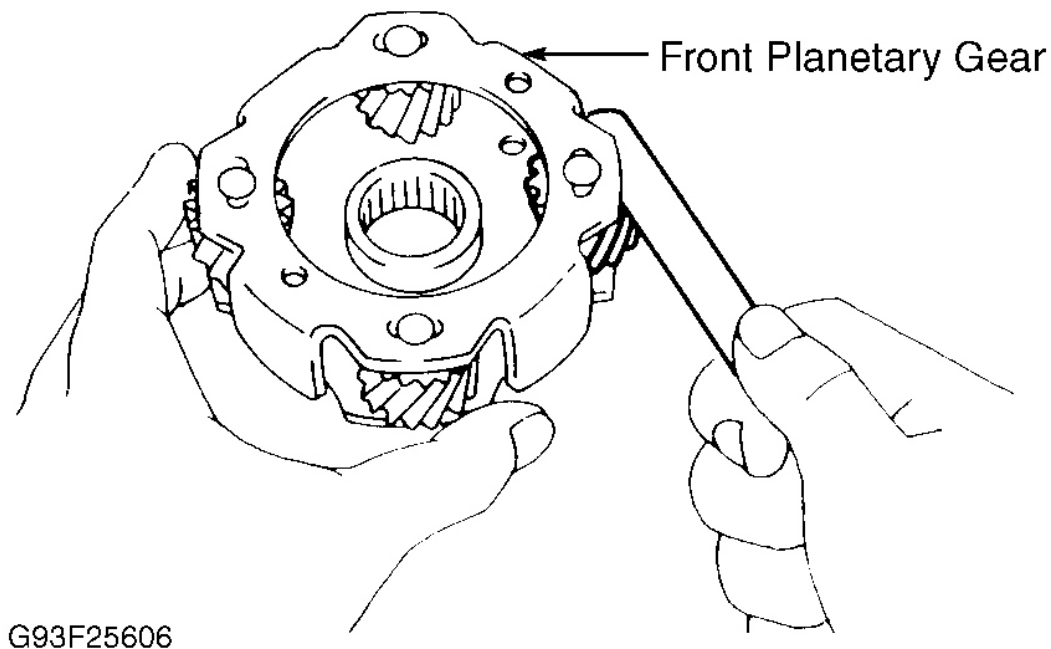

Fig. 39: Measuring Planetary Gear Thrust Clearance
3. Measure planetary pinion gear thrust clearance. Standard clearance should be .008-.020" (.20-.50 mm). Maximum clearance is .020" (.50 mm). If clearance exceeds specification, replace planetary gear. See **Fig. 39**.
3. Measure planetary pinion gear thrust clearance. Standard clearance should be .008-.020" (.20-.50 mm). See **Fig. 39**. If clearance exceeds specification, replace planetary gear assembly.